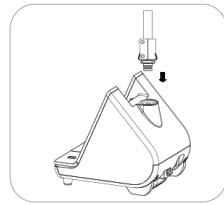

Fig. 6
- Keep the buckle tight. Fig.6